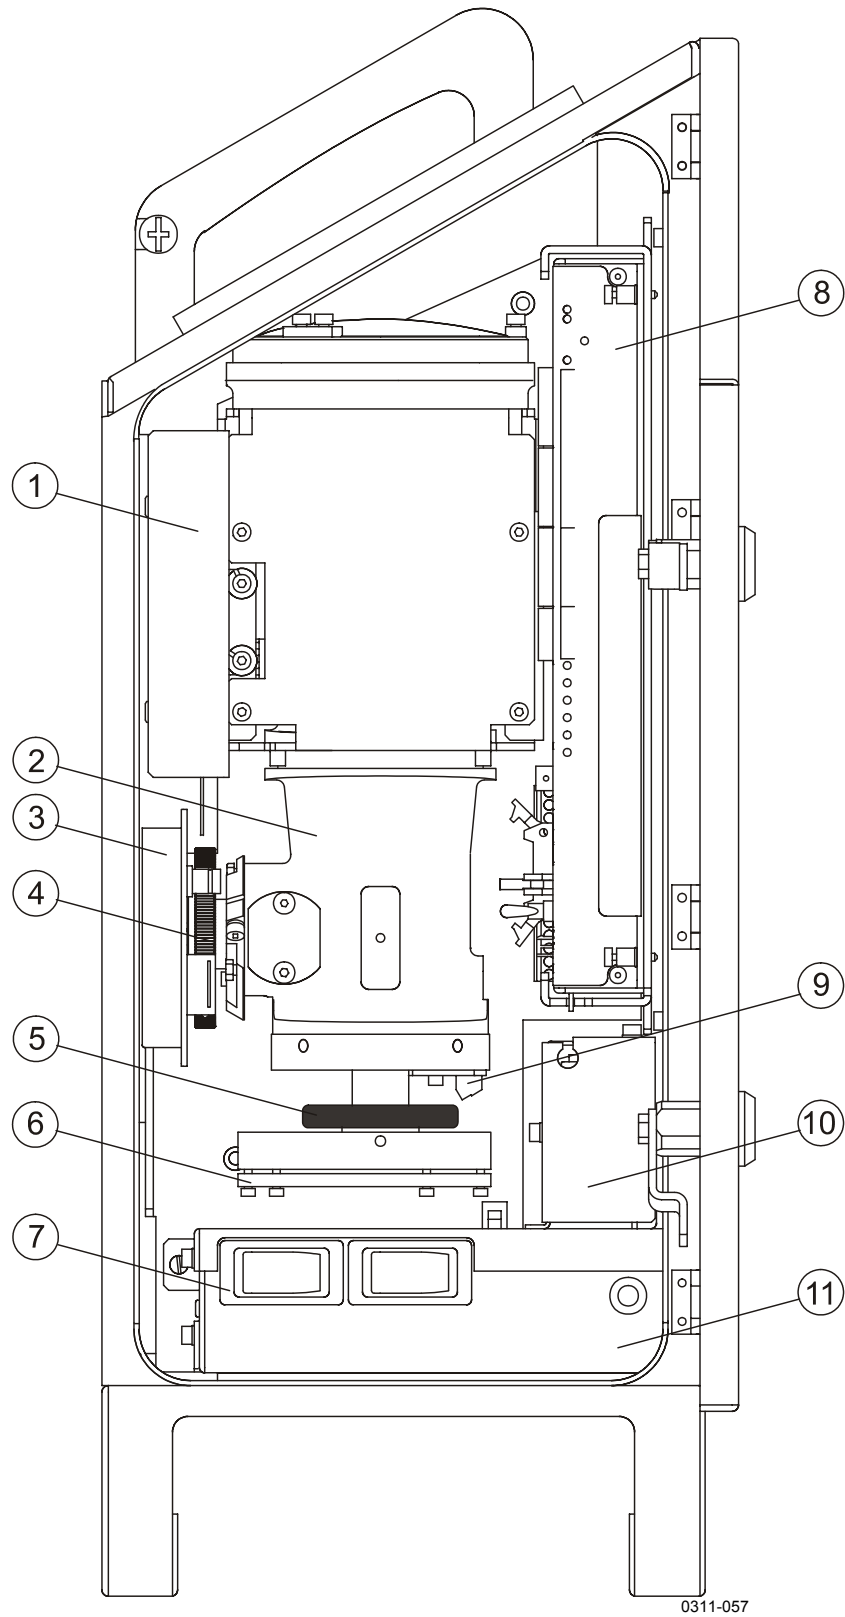
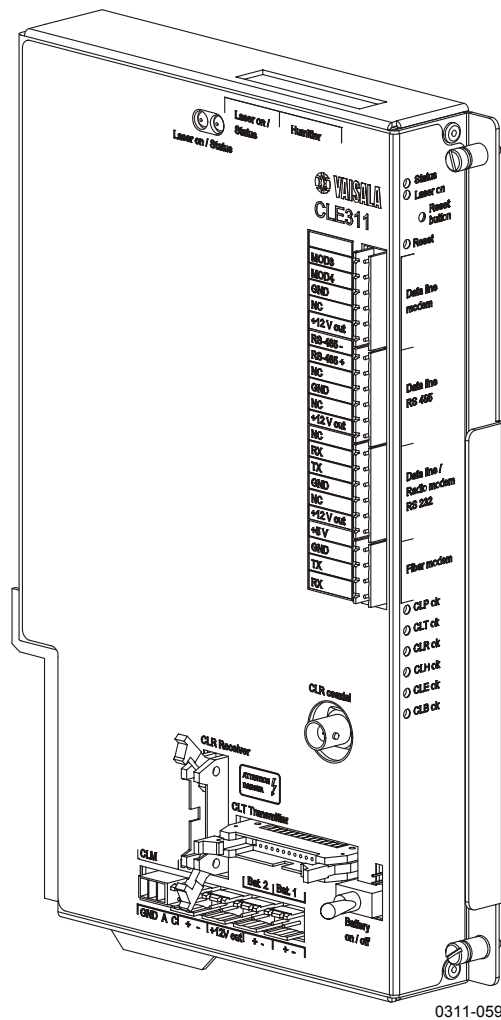

Figure 18 Main Components of Ceilometer CL31
Figure 19 Ceilometer Engine Board CLE311
1. Open the measurement unit door with the special key provided with the unit. Then switch the power off with all three switches (F1, F2, and Battery). For the location of the switches, refer to Figure 18 on page 98 and Figure 19 on page 99.
10. Switch the power on with all three switches. Wait until the **Laser on** LED starts blinking at 2-second intervals. Make sure that all six diagnostic LEDs are lit. Refer to Figure 19 on page 99.
1. Open the measurement unit door and confirm that there is an active transmitter failure. In case of a transmitter failure, the **CLT ok** LED will be turned off. Refer to Figure 19 on page 99.
2. Switch the power off with all three switches (F1, F2, and Battery). For the location of the switches, refer to Figure 18 on page 98 and Figure 19 on page 99.
4. To detach the transmitter, loosen the transmitter ring by turning it to the right. If necessary, you can use a 2.5-mm Allen key as a lever. Remove the transmitter from the unit. Refer to numbers 5 and 6 in Figure 18 on page 98.
8. Switch the power on with all three switches. Wait until the **Laser on** LED starts blinking at 2-second intervals. Ensure that all six diagnostic LEDs are lit. Refer to Figure 19 on page 99.
1. Open the measurement unit door and confirm that there is an active receiver failure. In case of a receiver failure, the **CLR ok** LED will be turned off. Refer to Figure 19 on page 99.
8. Switch the power on with all three switches. Wait until the **Laser on** LED starts blinking at 2-second intervals. Ensure that all six diagnostic LEDs light up after the self-test. Refer to Figure 19 on page 99.
The following numbers refer to Figure 18 on page 98:
- 8 = Ceilometer engine board CLE311 (see Figure 19 below)
1. Open the measurement unit door and confirm that there is an active CLE311 board failure. In case of a CLE311 board failure, the **CLE ok** LED will be turned off. Refer to Figure 19 on page 99.
4. Memorize the position of the data line connector (RS-232/RS-485/Modem) in front of the CLE311 board and detach it. Refer to Figure 19 on page 99.
5. Loosen the hand screws to release the CLE311 board from the frame. Gently pull the CLE311 board halfway out of the measurement unit and detach the battery cable and the cable connectors of Laser Monitor CLM311. Then remove the entire CLE311 board. Refer to Figure 19 on page 99.
11. Switch the power on with all three switches. Wait until the **Laser on** LED starts blinking at 2-second intervals. Make sure that all six diagnostic LEDs light up after the set-test. Refer to Figure 19 on page 99.
1. Open the measurement unit door and switch the power off with all three switches (F1, F2, and Battery). For the location of the switches, refer to Figure 18 on page 98 and Figure 19 on page 99.
9. Switch the power on with all three switches. Wait until the **Laser on** LED starts blinking at 2-second intervals. Make sure that all six diagnostic LEDs light up after the self-test. Refer to Figure 19 on page 99.
1. Open the measurement unit door and confirm that there is an active AC power unit failure. In case of an AC power unit failure, the **CLP ok** LED will be turned off. Refer to Figure 19 on page 99.
2. Switch the power off with all three switches (F1, F2, and battery). For the location of the switches, refer to Figure 18 on page 98 and Figure 19 on page 99.
12. Switch the power on with all three switches. Wait until the **Laser on** LED starts blinking at 2-second intervals. Ensure that all six diagnostic LEDs light up after the self-test. Refer to Figure 19 on page 99.
1. Open the measurement unit door and confirm that there is an active window blower failure. In case of a window blower failure, the **CLB ok** LED will be turned off. Refer to Figure 19 on page 99.
8. Switch the power on with all three switches. Wait for 3 minutes after the start-up until self-check is completed. Ensure that all six diagnostic LEDs are lit. Refer to Figure 19 on page 99.
11. Switch the power on with all three switches. Wait until the **Laser on** LED starts blinking at 2-second intervals. Make sure that all six diagnostic LEDs are lit. Refer to Figure 19 on page 99.